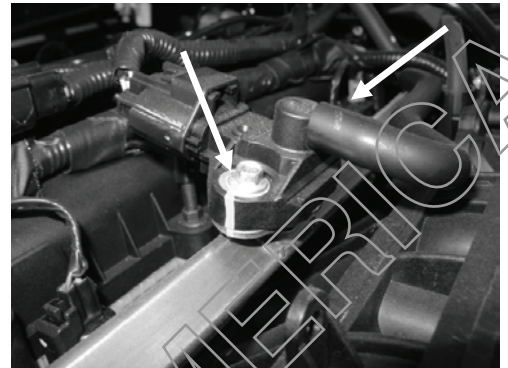

FIGURE 30
50. Using a 1/4" drive 7mm socket, loosen the two screws holding the fuel rail pressure sender to the fuel rail. **(FIGURE 30)**